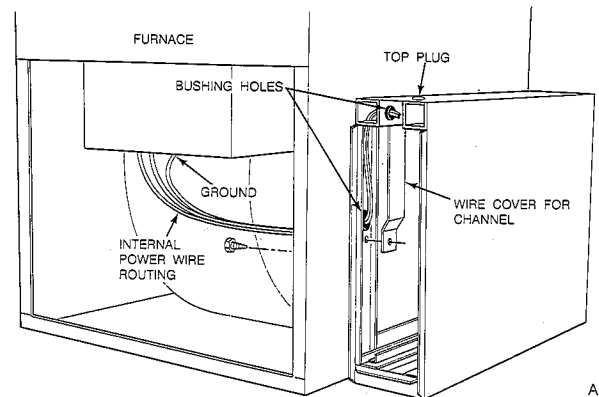

Fig. 9—Line-to-Line Wiring Diagram
2. Cut electronic air cleaner wires to 6-in. long; strip ends. Connect power leads to black and white pigtailed extending from female receptacle, using field supplied wirenuts. See Fig. 9.